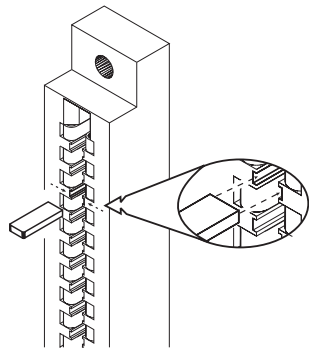

Figure 3
7. Place the user key from the installation kit in the OMM-1 card edge connector for the ASC-2. This prevents the installation of any other card type in the ASC-2 slot. Two keys to prevent reverse installation of the card are already factory installed in the OMM-1 edge connectors. See Figures 3 and 4.